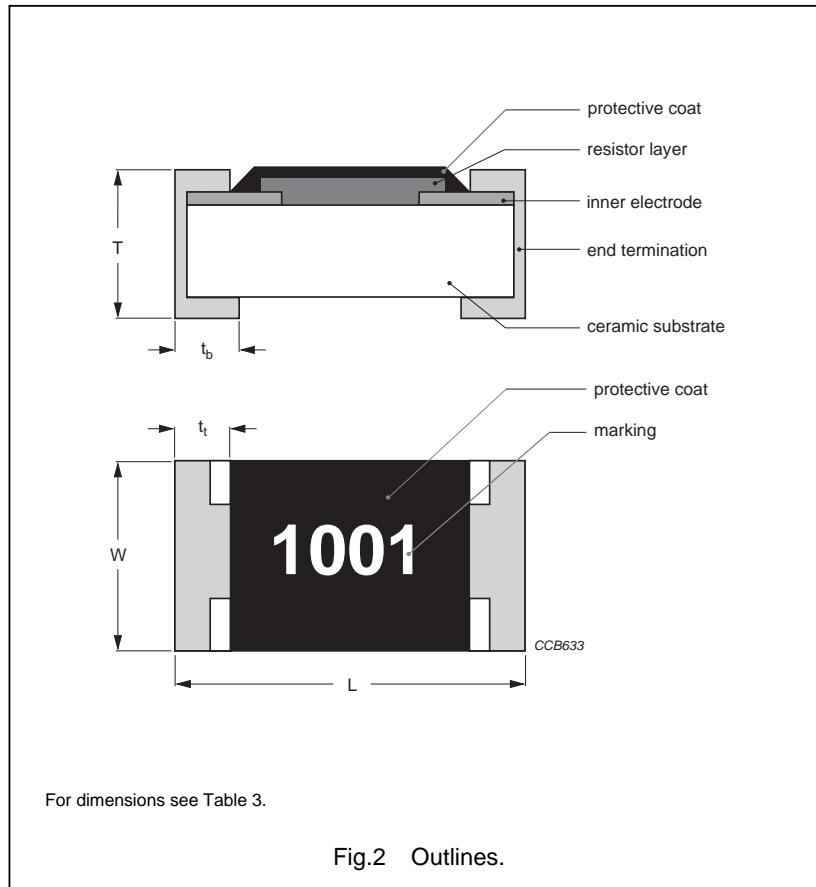

Fig.2 Outlines.
**Table 3** Chip resistor type and relevant physical dimensions; see Fig.2